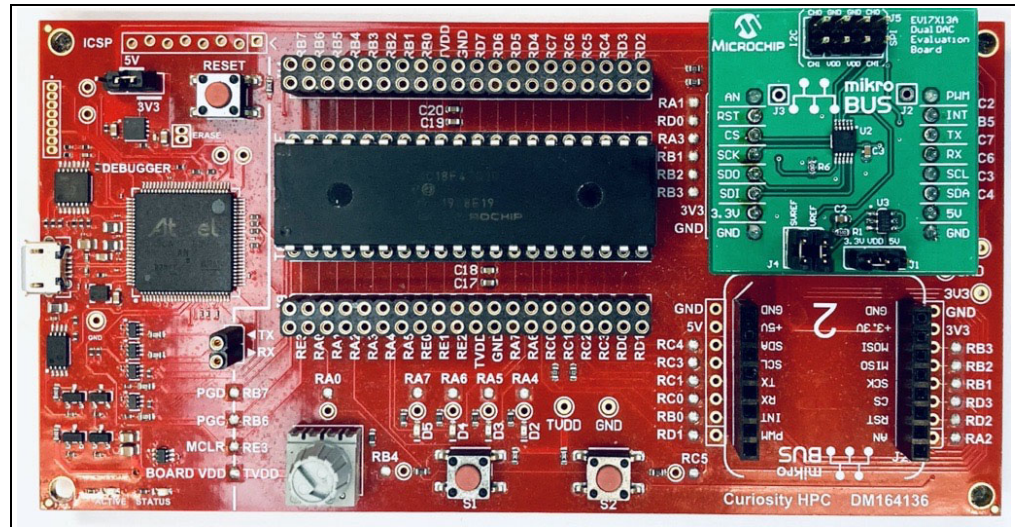

FIGURE 1-3: 1LSb INL Dual DAC Evaluation Board Mounted on the mikrobus™ Click Board™ of the Curiosity HPC Development Board (DM164136).
Figure 1-3 shows the 1LSb INL Dual DAC Evaluation Board mounted on the Curiosity microcontroller board, using the mikroBUS™ connector.
Step 1. Connect the 1LSb INL Dual DAC Evaluation Board to the top-right mikroBUS header on the Curiosity HPC Board, as shown in Figure 1-3.